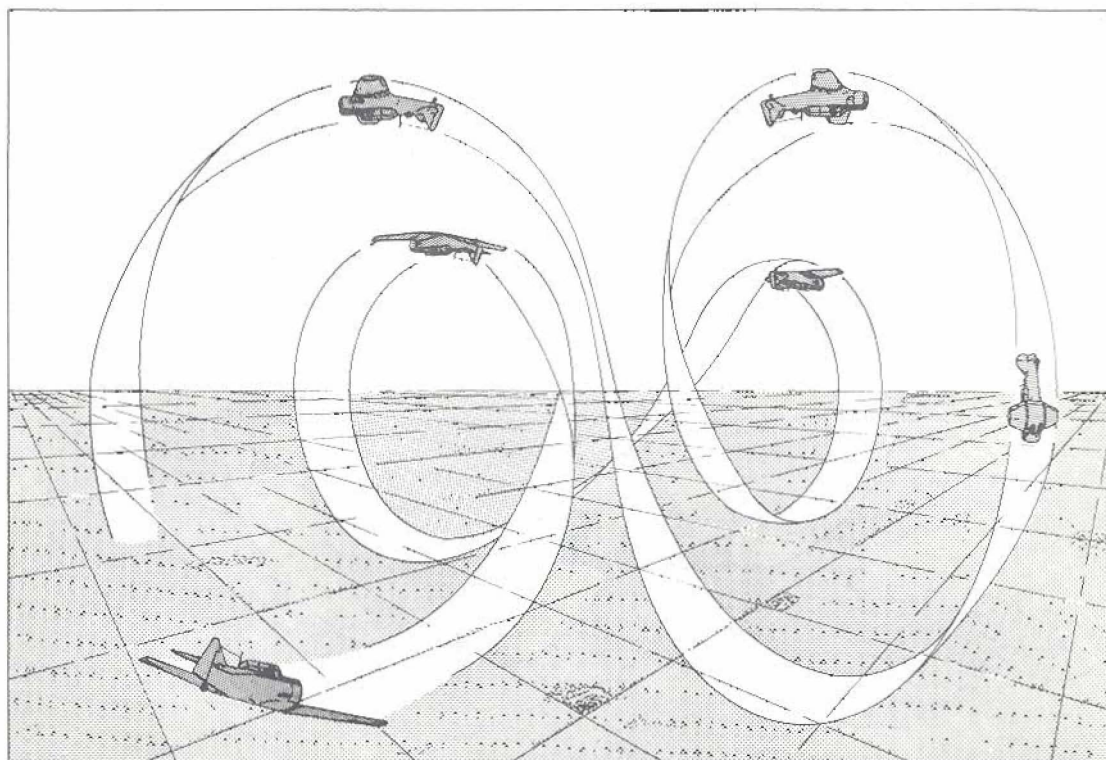

Figure 4: The Clover Leaf
(1) A clover leaf is a complex manoeuvre in which portions of the loop and roll are combined, as shown in Figure 4 opposite. The basic reference for this exercise is the point at which two ground feature lines intersect at 90 degrees.
(2) The clover leaf is started by diving the aircraft through the last clearing turn. As the airspeed approaches 155K, roll out of the turn parallel to one of the reference lines, and release the forward pressure to bring the nose smoothly through the horizon as the airspeed reaches 155K. Keeping the wings level, apply back pressure to bring the nose up as if to begin a loop and, at the same time, select a reference point on the horizon off one of the wing tips. When the nose is at a pitch attitude of between 60 and 70 degrees above the horizon, you must blend aileron and rudder pressures to start a roll in the direction of the chosen reference point.
(3) When the aircraft is inverted, the wings should be level with the horizon and you should have turned through 90 degrees from the starting point. The back pressure is maintained after the inverted position so that the aircraft is pulled-through parallel to the second ground reference line: